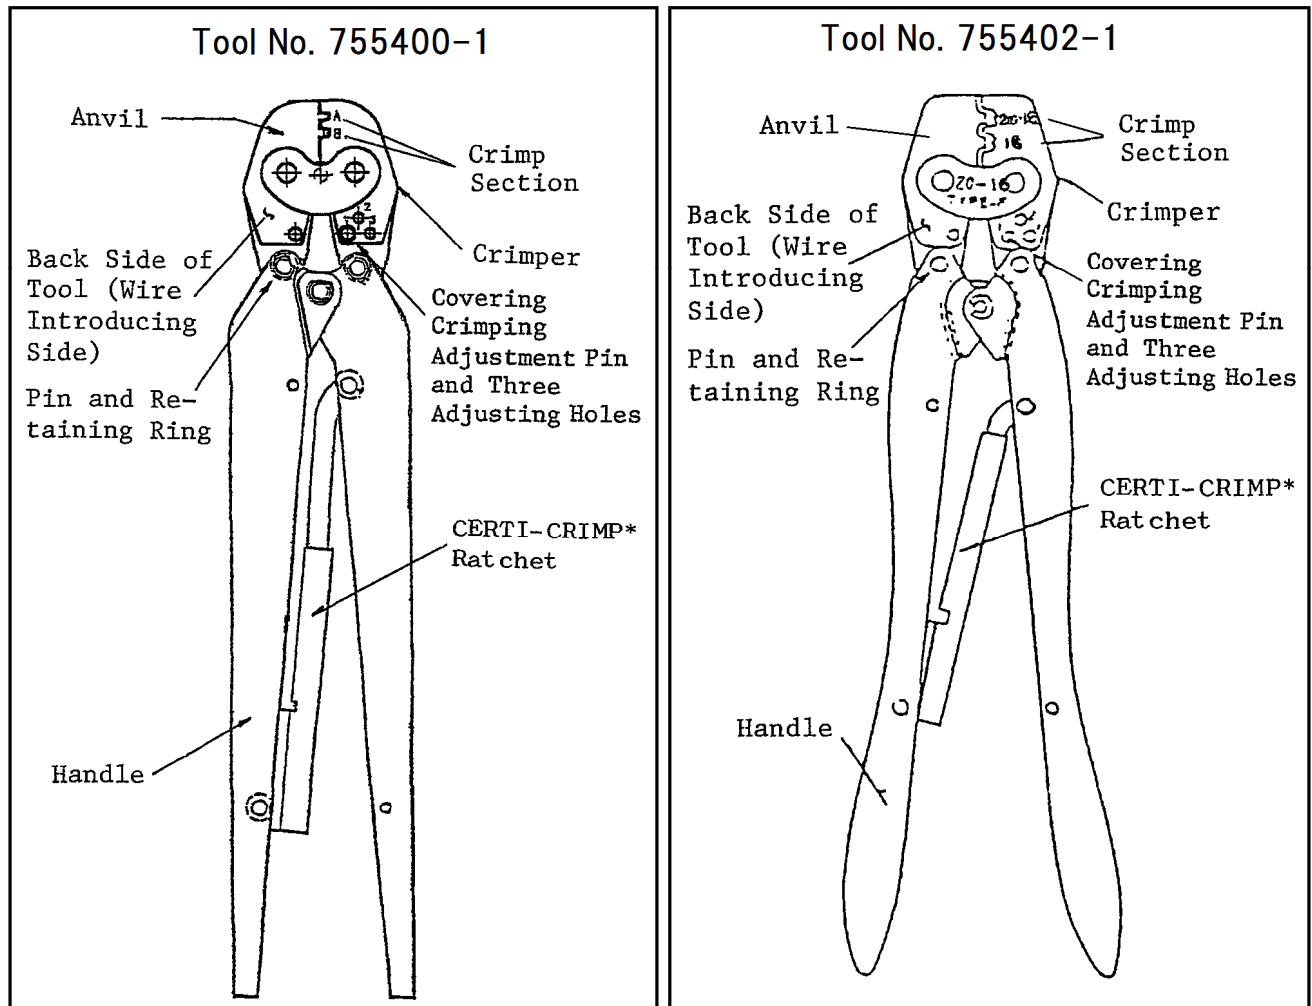

Fig. 1
- (a) The tool (shown in Fig. 1) is used for crimping terminals (shown in Fig. 2) on to stranded wires (shown in Fig. 2).
- (c) The tool is provided with two crimping sections marked A and B as in Fig. 1. Crimp terminals by adequate crimping sections according to Fig. 2. If a wrong crimping section is used, the tool may be damaged or the crimping quality may be deteriorated.